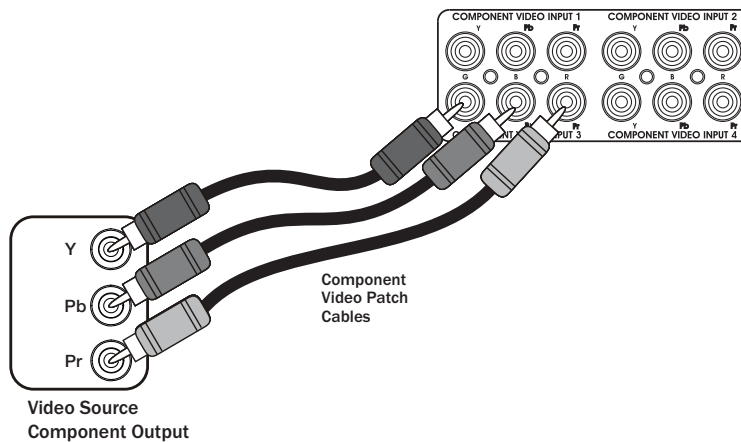
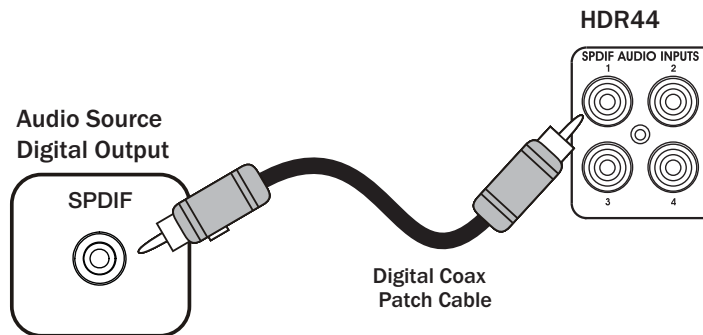
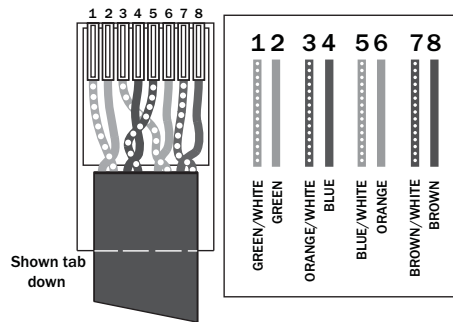
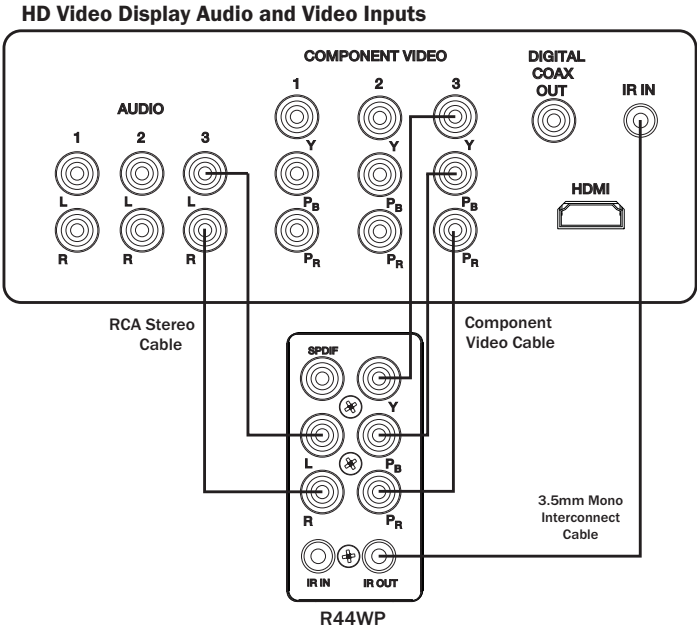

Figure 3-6: COMPONENT VIDEO INPUTS
Figure 3-9: SPDIF AUDIO INPUTS
Figure 3-11: T568A Wiring Standard
Figure 3-12: R44WP to HD Video Display
Use high-quality component video cables to make connections between video sources and the HDR44's inputs. Sources will typically be located near the HDR44 at the head-end of the system. Component video outputs as well as audio outputs and IR will be sent via Cat-5 cables from the head-end to R44WP HD Receive wall plates located throughout the house. Use high-quality component video cables to connect to each HD video display from the R44WP as well. See *Figure 3-12* on page 17 for detailed R44WP to HD video display connections.
Use a Digital Coaxial cable to connect a video source with a Digital Coaxial output to the HDR44's Source Input as shown in **Figure 3-9**. Digital Connections provide the best audio quality and should be used if available.
A R44WP HD Receive Wall Plate is required to connect video, audio, and IR to a zone. The R44WP wall plate has component video, audio, and IR connections that connect to the Video and Audio inputs of each zone's HD Video Display. A run of (2) two Cat-5 Cables terminated to T-568A standard, shown in **Figure 3-11**, is required between the HDR44 and the location designated for the R44WP. Connections between a source component and the HDR44 are detailed in **Figure 3-6** through **Figure 3-9**, while connections between the R44WP and the zone HD Video Display are detailed in **Figure 3-12**.